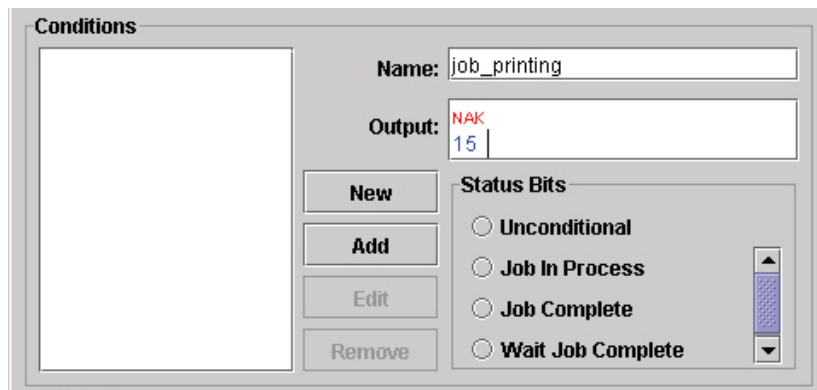

Figure 167 Switching Between ASCII and Hex Entry Modes
2. Define the output that should be transmitted to the host. In the Output field, press the down arrow key and type 15 (NAK). See Figure 167.